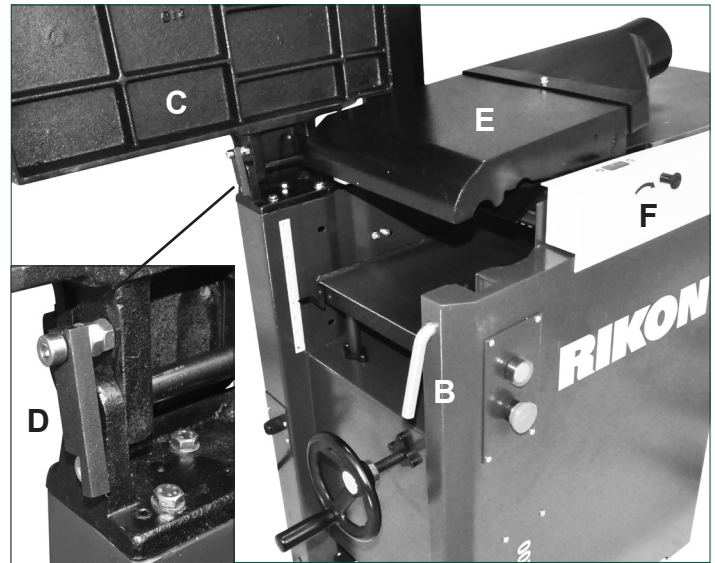

FIG. 37
To use the planer, the upper, outfeed jointer table & fence assembly must be tilted up and out of the way. FIG. 37.
2. Twist the clamping Handle (#143, FIG. 37, B) up and then pull it outward to release the outfeed table. Swing the table (C) and fence assembly up and to the back of the machine. Make sure the outfeed table's locking Bracket (#147, D) is engaged to keep the table in the upward / open position. **NOTE:** When closing the outfeed table, don't forget to release the locking bracket, or damage to the machine may occur.
3. Pivot the Dust Chute (#30, FIG. 37, E) up and over the jointer infeed table where it will automatically lock in place with the Locking Pin (F). Attach your dust collector's 4" hose to the dust port before any planing is done.